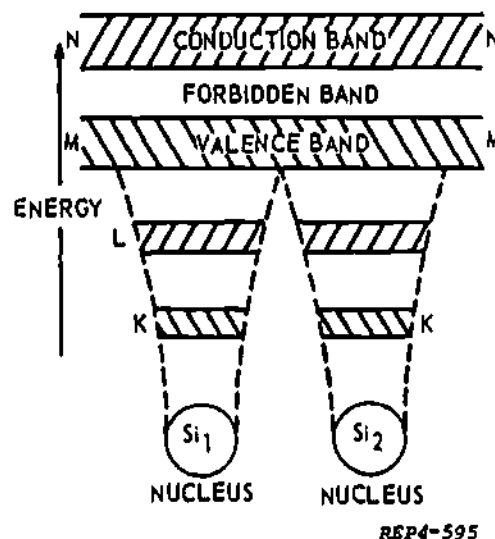

Figure 1-5. Energy Level Interaction
1-13. When atoms are brought close together, there is an interaction between the individual energy levels of the atoms. Figure 1-4 illustrates the energy level of two silicon atoms (atomic number 14) that are separated by a distance large enough to prevent the shells from overlapping. Figure 1-5 illustrates the result when the atoms are moved closer together so that the valence shells overlap. Now, the valence shells of the two atoms act as a single **VALENCE BAND**. Only the outermost shell (M) has been affected; the inner shells (K and L) retain the individual energy levels of the separate atoms. As more and more atoms are brought together to form a piece of silicon, the
1-14. Recall that energy levels exist whether they are occupied by electrons or not. These unoccupied energy levels also combine when brought together with other atoms. Even though the N shells of the silicon atoms are unoccupied they will interact when brought together, forming a band of permissible energy. This is called the **CONDUCTION BAND**. The conduction band and the valence band are separated by the **FORBIDDEN BAND**. See Figure 1-5.